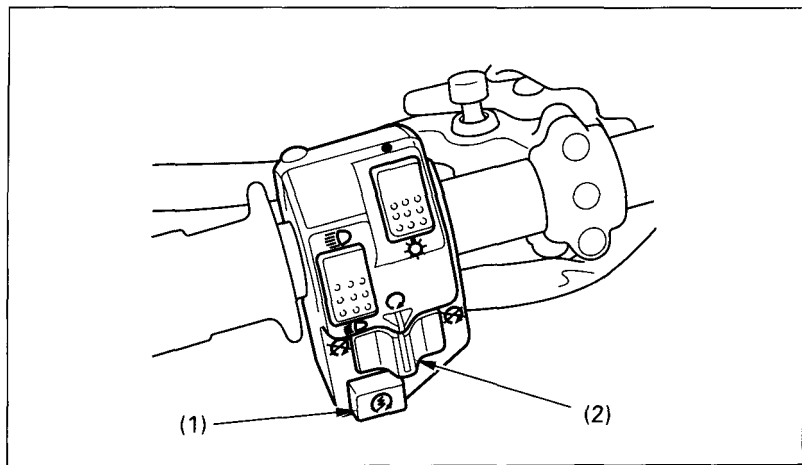

Fig. 2-8
The starter button (Fig. 2-8) is below the engine stop switch. To start the engine, press the starter button (1), with the transmission in neutral, the ignition switch ON (I) and the engine stop switch (2) at RUN (O).